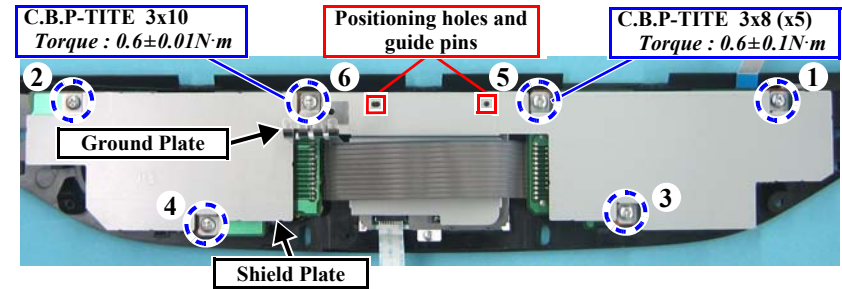

Figure 4-7. Removing the Screws (Shield Plate)
2. Remove the screws (x6) securing the Shield Plate, Panel Board and Ground Plate, and remove the Shield Plate upward. (Fig. 4-7)
- When installing the Shield Plate, match the positioning holes with the guide pins (x2). (Fig. 4-7)
- When installing the Shield Plate, tighten the screws in the order specified. (Fig. 4-7)